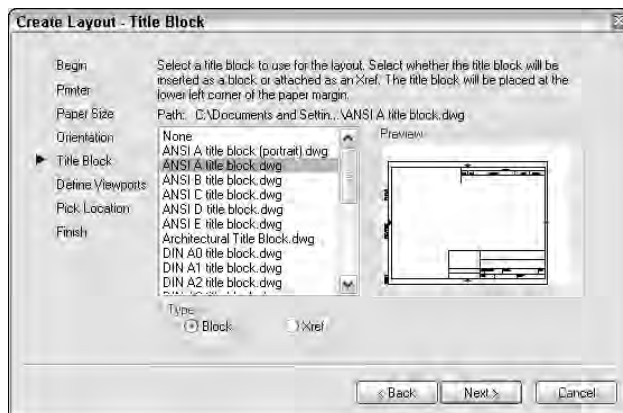

Figure 17-4: The Title Block screen of the Layout Wizard
6. On the Title Block screen, shown in Figure 17-4, choose a title block if you want to add one. You can add it as a block (see Chapter 18) or as an external reference (or xref—see Chapter 19).